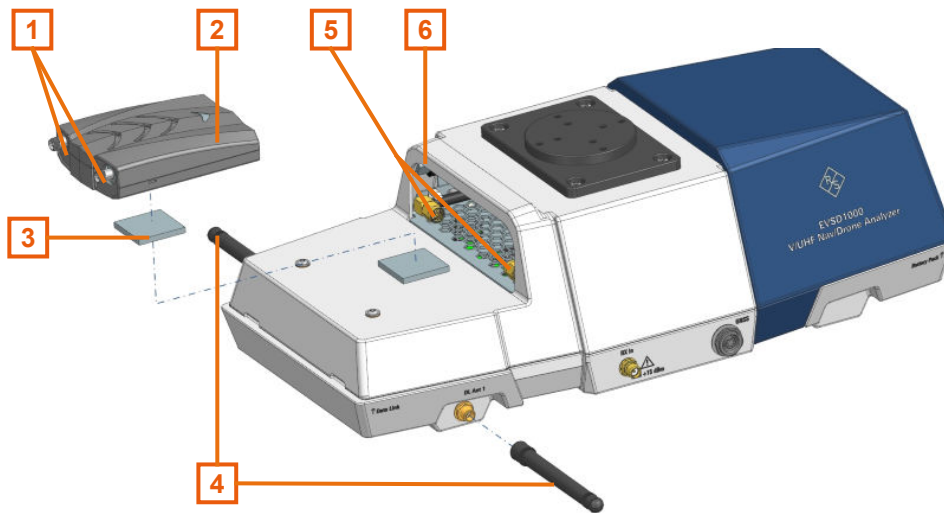

Figure 4-3: Connecting the R&S EVSD1-Z5 Data-link-module (Wi-Fi)
2. A hook-and-loop fastener is taped to the R&S EVSD1000, in front of the data link slot. Tape the upper part of the fastener to the data-link-module (Wi-Fi) as shown in Figure 4-3.